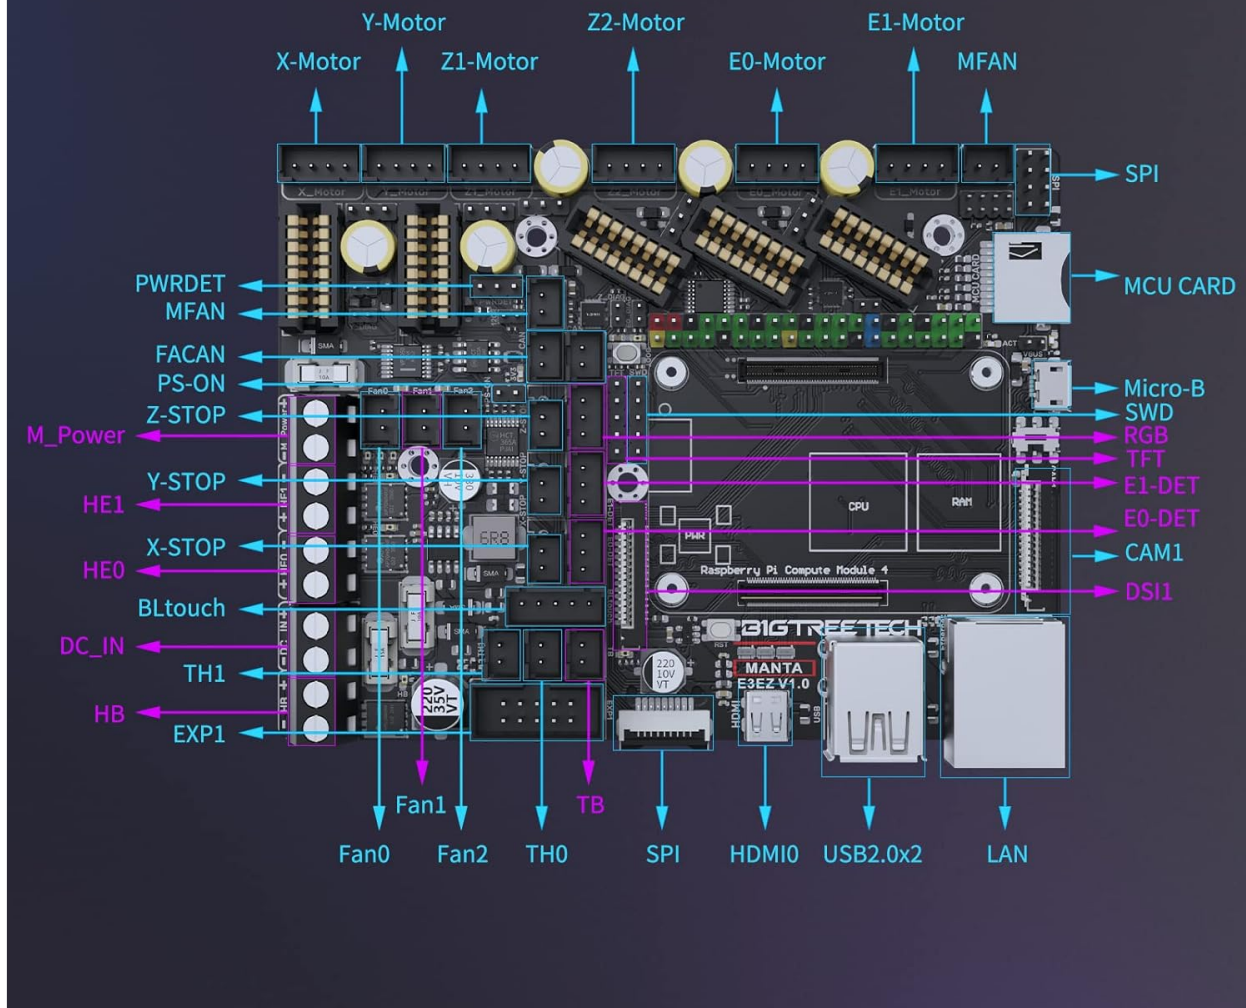

Figure 3.5: Detailed Interface Diagram with port labels.
4. **Wire Components:** Reconnect all motor, endstop, heater, thermistor, and fan wires to their corresponding ports on the Manta E3EZ board, referring to the interface diagram (Figure 3.5). Pay close attention to polarity for power connections.